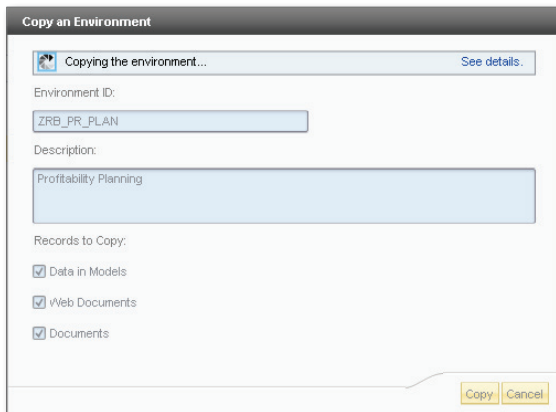

Figure 3.25 Creating an Environment—Part C
3. The SAP BPC system schedules a background job in the SAP NetWeaver BW system to create the new environment. The new screen indicates that the copy is in progress. The detailed information on the progress is viewed by clicking on SEE DETAILS (Figure 3.25).